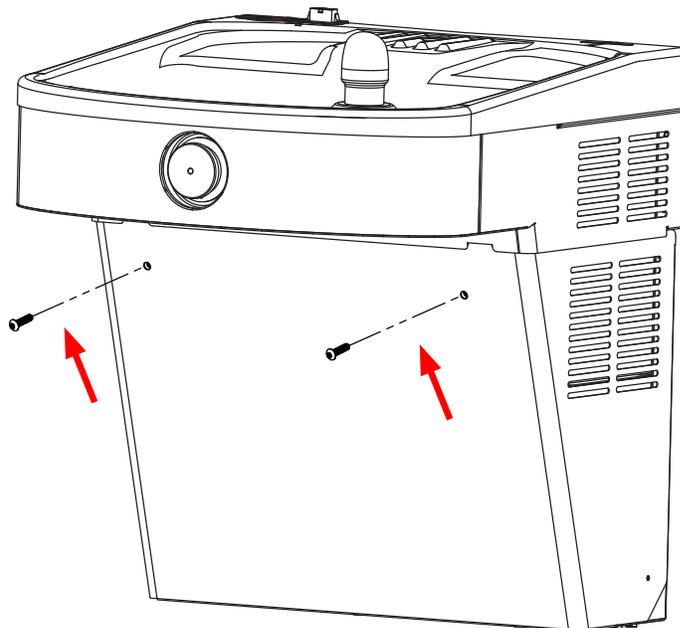

Fig. 10
2. When re-attaching the cooler wrapper, push wrapper up and under the shroud. Make sure wrapper and bushing holes are aligned prior to inserting screw as shown in Fig. 10, do not over tighten. Units are now ready for use.